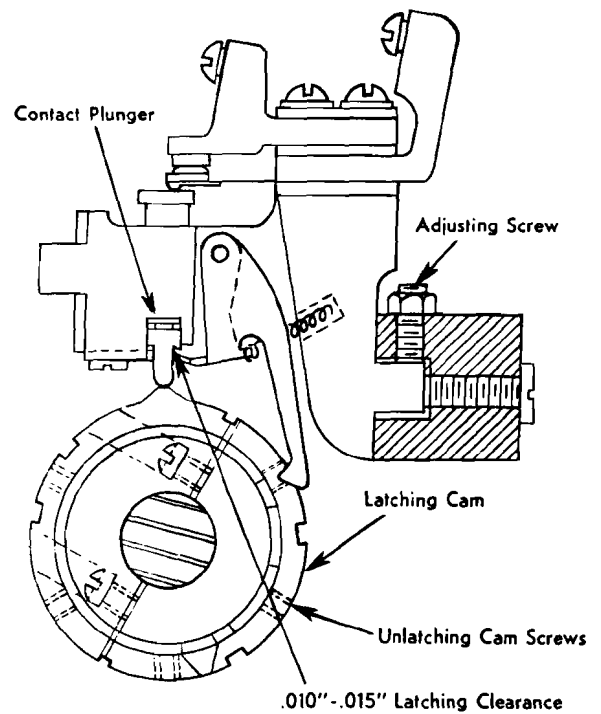
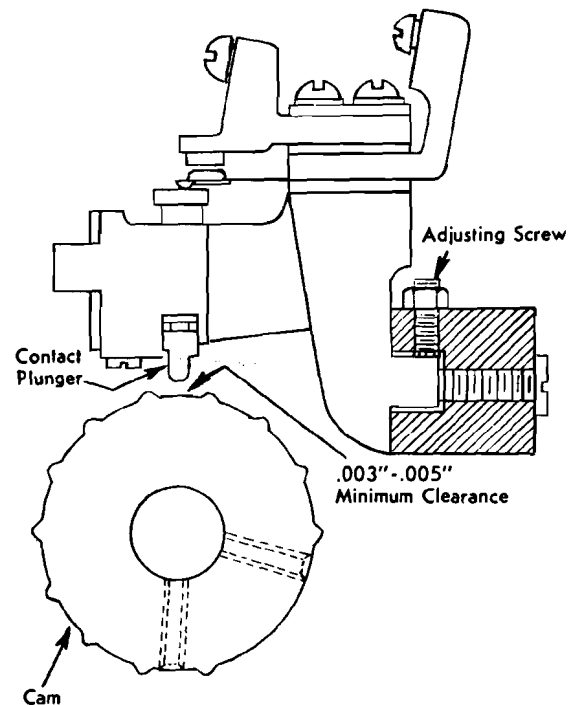

Figure 46. Circuit Breaker Adjustment
Figure 47. Circuit Breaker Adjustment
6. Locate the cam contact unit on the mounting bar at its extreme limit of travel away from the cam, and with the plunger on the highest point of the cam lobe, advance the adjusting screw until the plunger latches; then advance the screw one-half turn additional to obtain $.010''$ to $.015''$ movement of the plunger beyond the latch point (Figure 46). This will provide clearance between the low dwell of the cam and the plunger. On the non-latch type there should be a $.003''$ minimum clearance between the low dwell of the cam and the contact plunger when the plunger is against its stop (Figure 47). If a latching cam contact does not latch, it may be recognized by the fact that the contact points will close for 11° , or approximately 4 teeth on the index.
8. To adjust the break time of the contact, loosen the contact unlatching cam screws (Figure 46). Turn the machine to the proper index point and move the unlatching cam in its slot until the contact opens. Tighten the holding screws. There